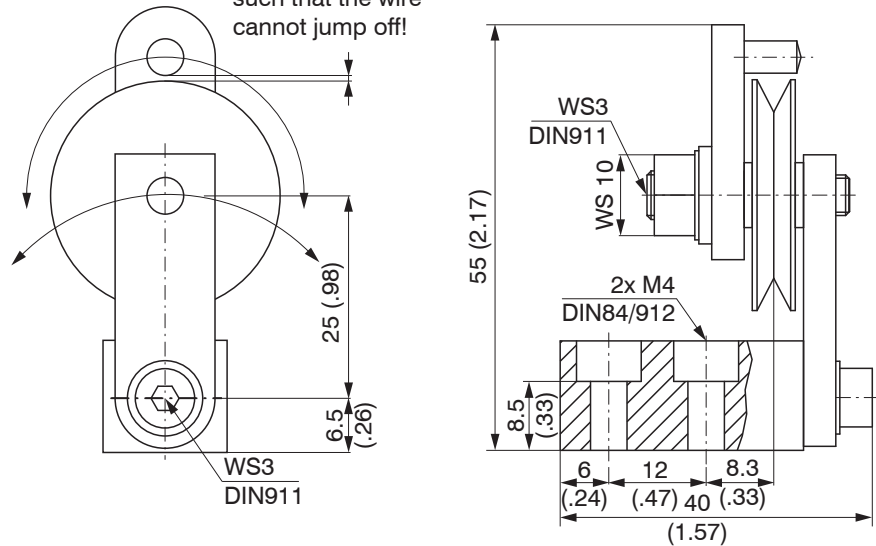

Fig. 12 Deflection pulley TR1-WDS with mounting foot, dimensions in mm
- TR1-WDS Wire deflection pulley with mounting foot, see Fig. 12